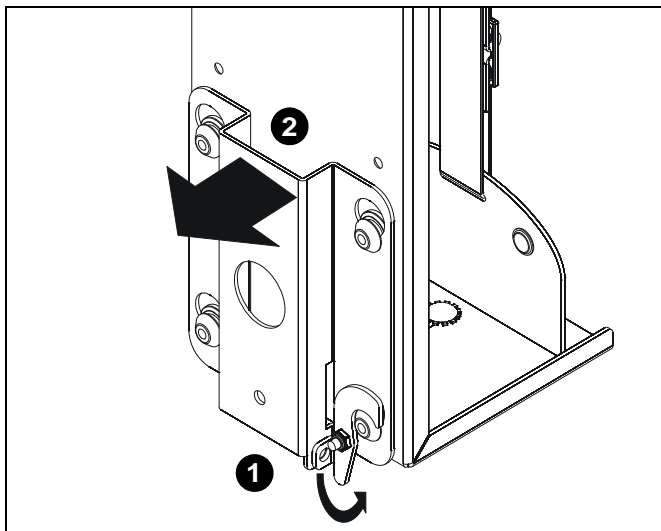

Figure 2
1. Release bracket from mount by moving the flag to the open position. (See Figure 2)
2. Remove bracket from mounting buttons on back of mount. (See Figure 2)
1. Ensure bracket flag is in the open position. (See Figure 2)